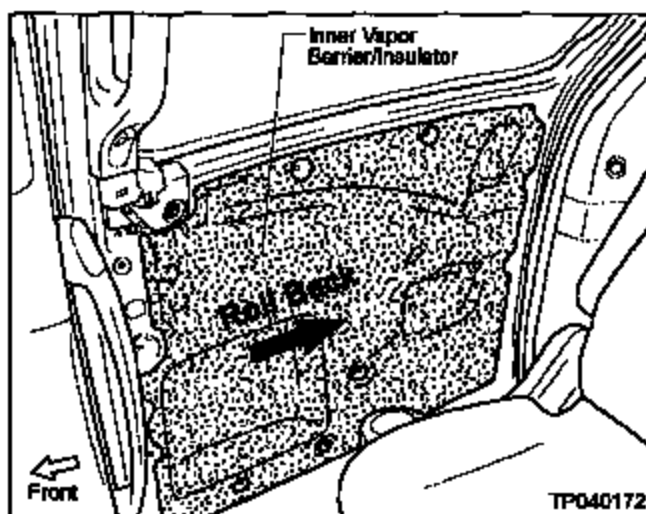

Figure J16
17. Roll the Inner Vapor Barrier/Insulator back (see Figure J16) as follows: